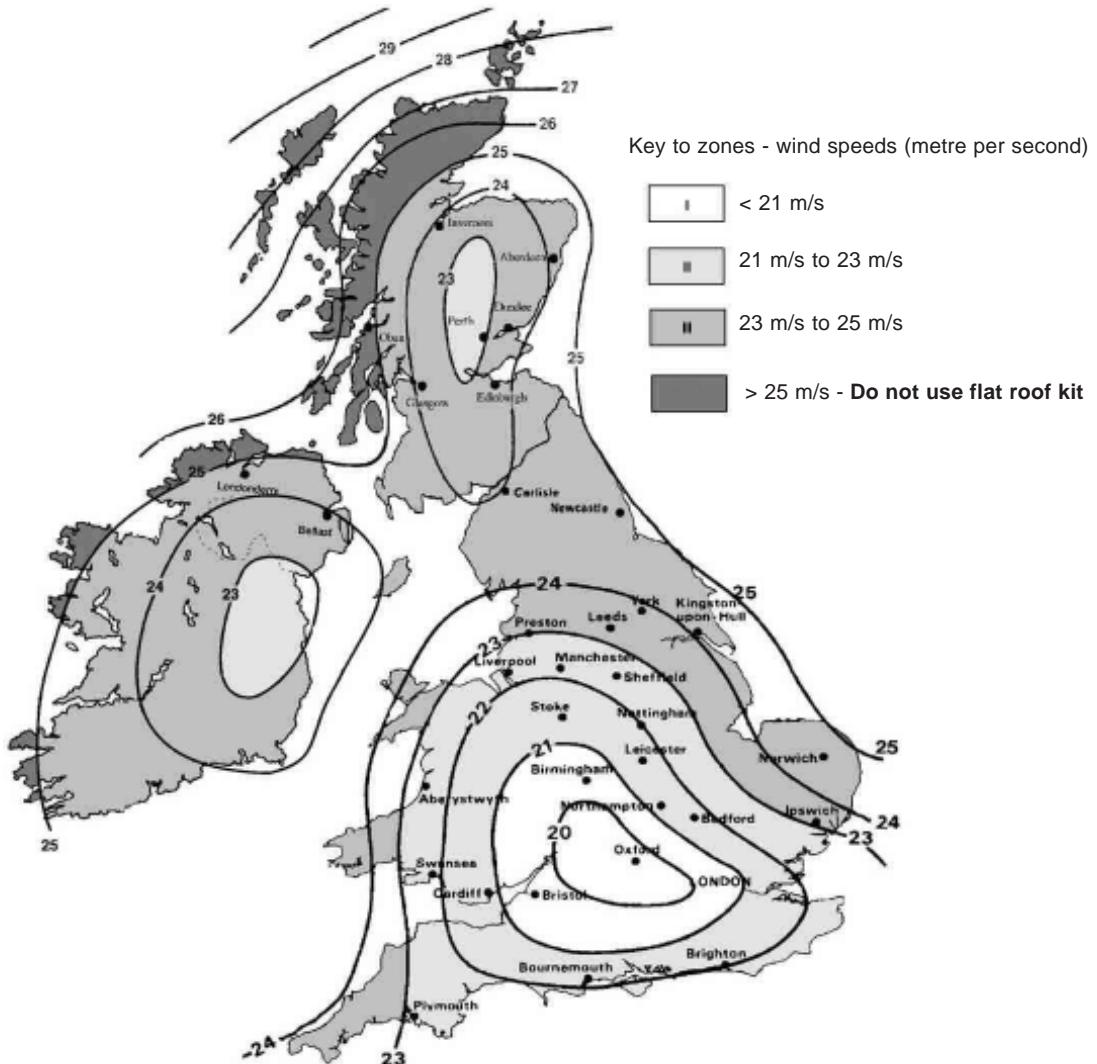

Fig. 3 - Map of UK wind speed zones
d) Refer to the map, Fig. 3, and table, to determine the amount of weight required to place on the frame to secure it in position.